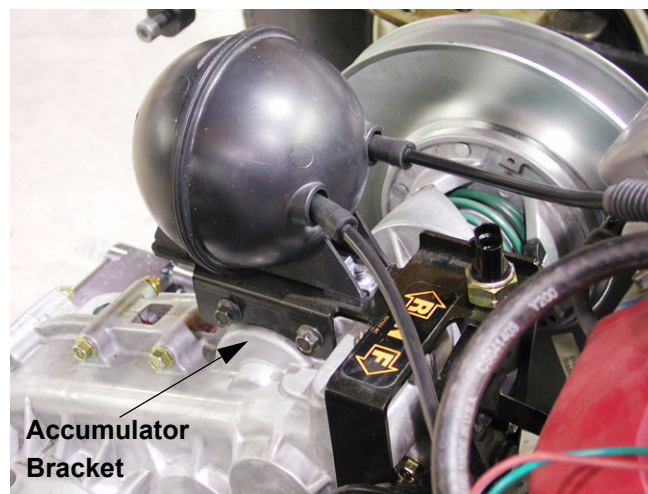

Figure 7.20
- 7.20. Remove the bolts holding the bracket to the top of the transaxle using a 3/8" wrench and a 7/16" wrench. See Figure 7.20.